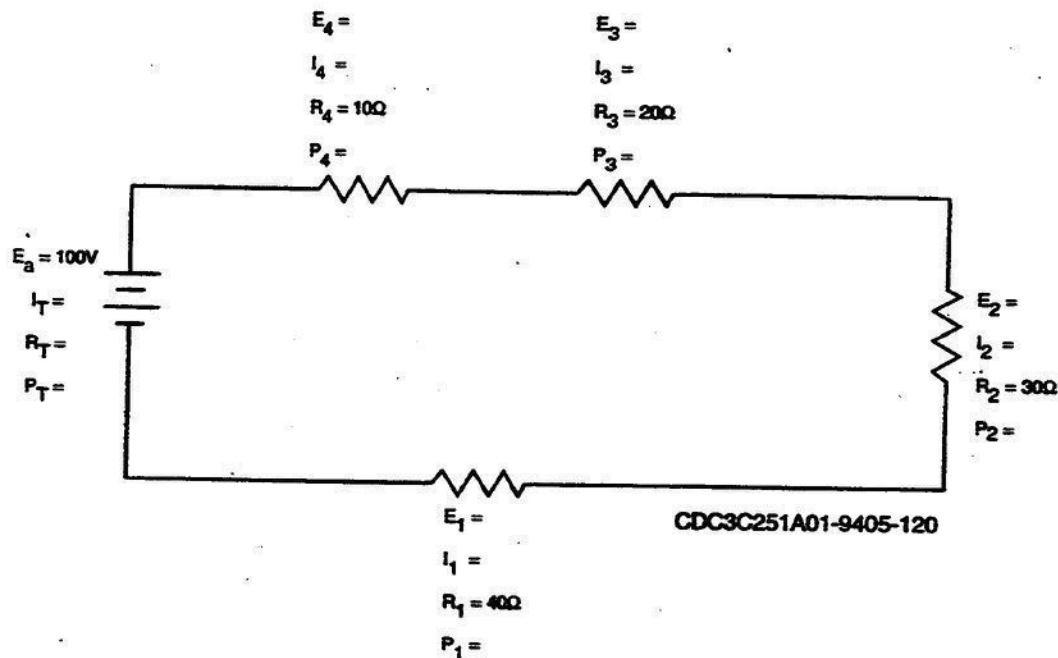

Figure 2-52. Lesson 023, self-test question 6.
6. Using the circuit in figure 2-52, calculate for the unknown values. Record your calculations here.